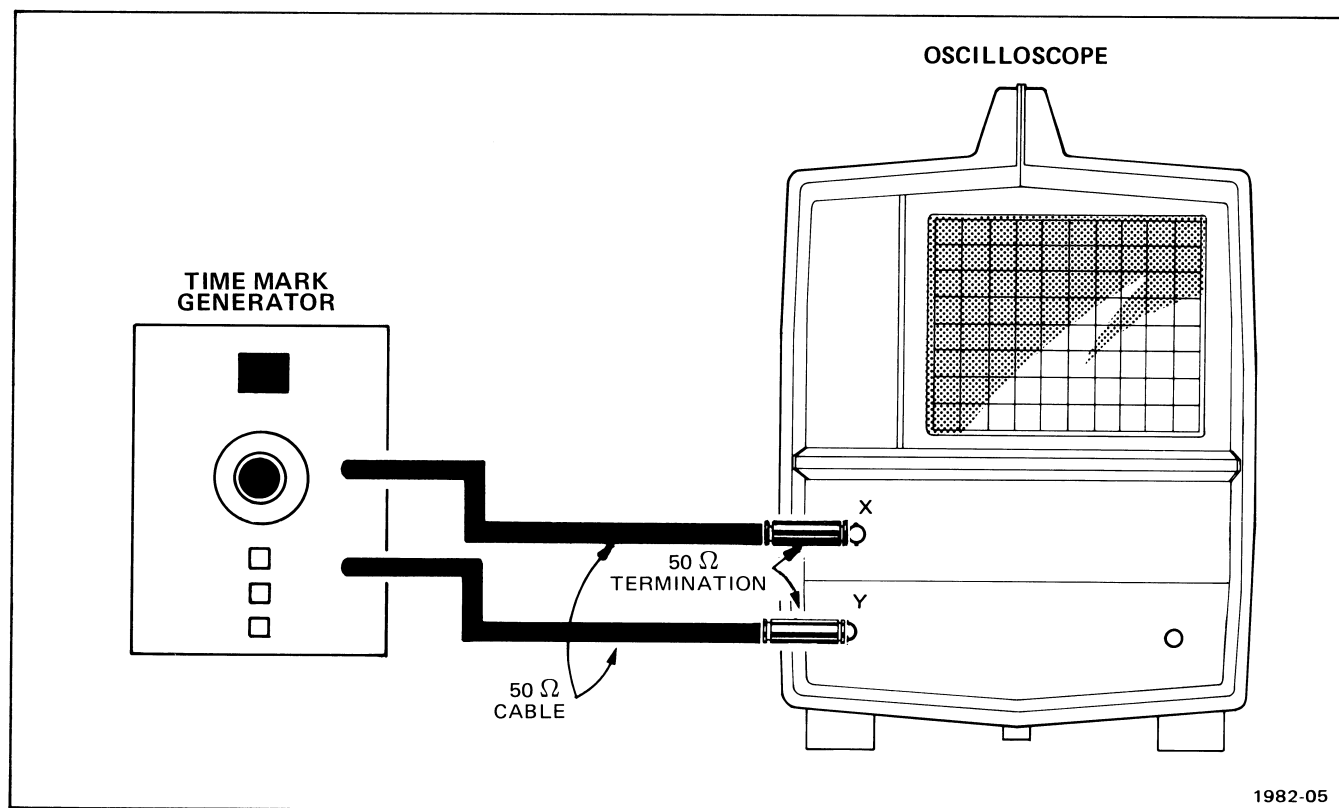

Fig. 3-4. Timing accuracy and writing rate check test setup.
a. Connect test setup as shown in Fig. 3-4.
- a. Connect test setup as shown in Fig. 3-4.